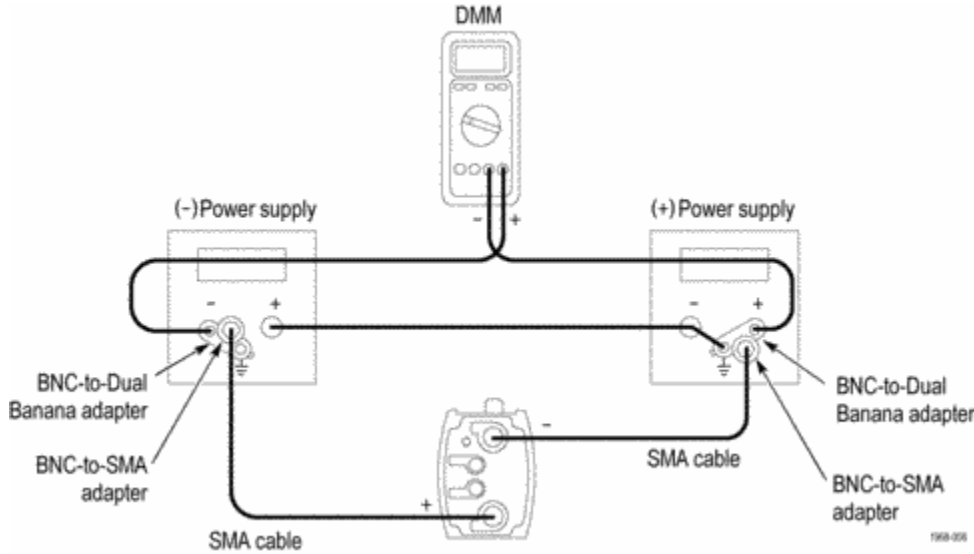

Figure 29: Reverse the power supply polarity on the probe inputs
6. Connect the BNC-to-dual banana plug adapters into the opposite power supplies to reverse the voltage polarity to the probe inputs. (See Figure 29 on page 40.)